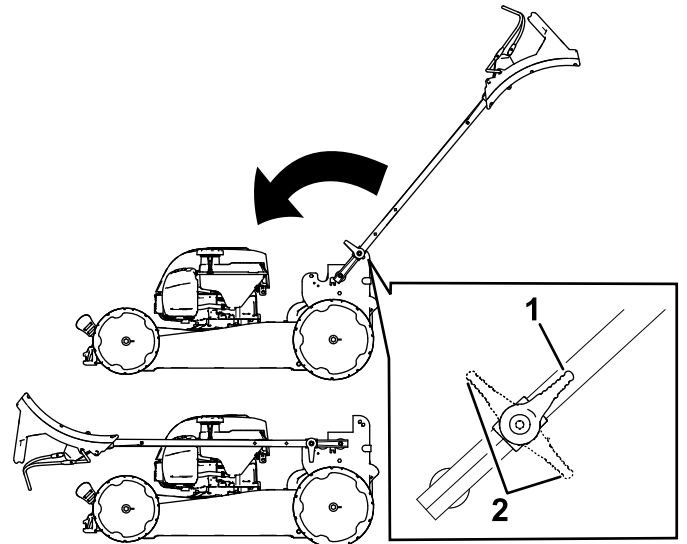

Figure 25
3. Disengage the handle locks (Figure 25).
4. Fold the handle fully forward (Figure 25).